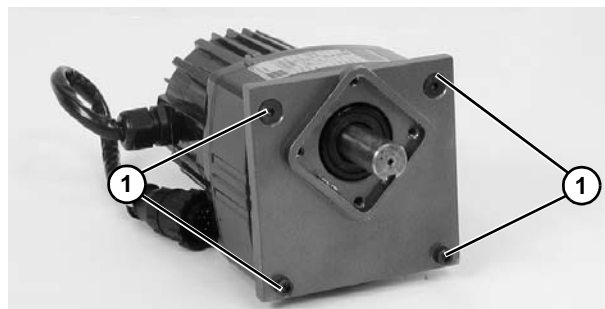

Figure 28
5. Remove four adapter plate screws (**Figure 28, item 1**). Remove adapter plate.
6. Install new gearmotor to adapter plate with screws (**Figure 28, item 2**). Tighten screws to 103 in-lb (12 N-m).